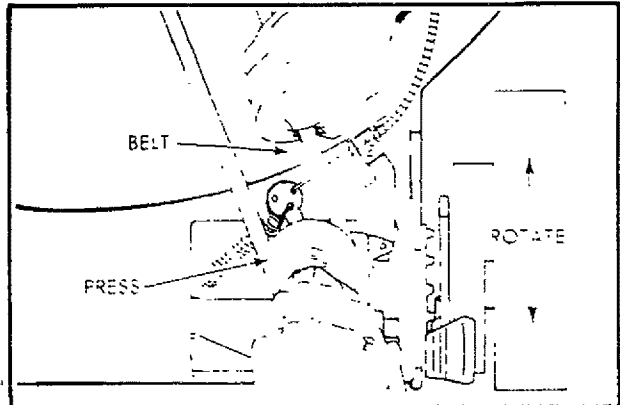

FIG. 22
- a. Push down on gear case pulley until belt can be removed from gear case pulley (See Fig. 22).